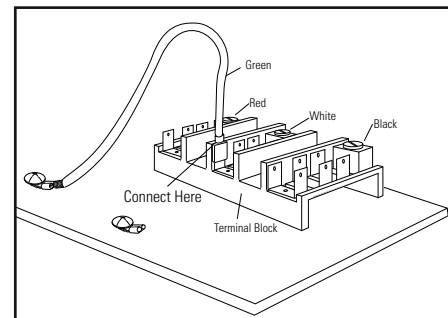

Fig. 16 RDU/RDV terminal block
- Connect green jumper to open terminal on neutral (white) portion of the terminal block (Fig. 16).